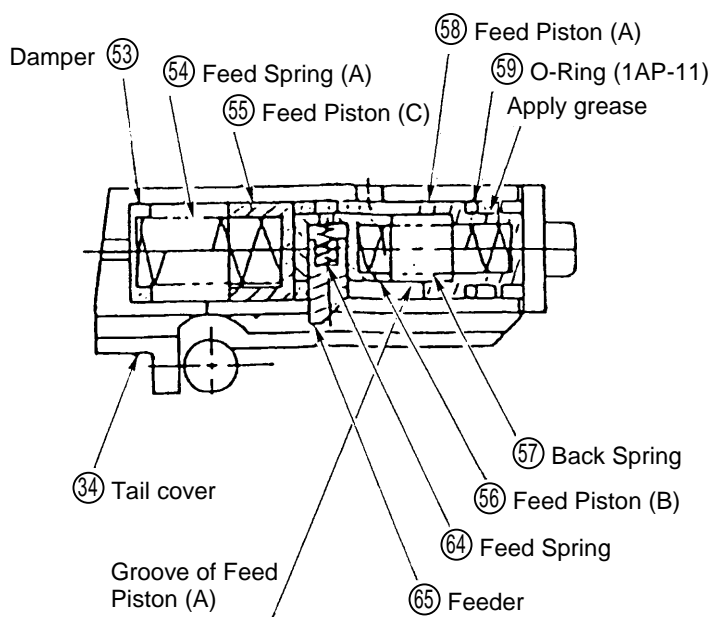

Fig. 22 Assembly Drawing for Feeder Piston and Related Parts (Cross Section)
- As illustrated in Fig. 22, push the O-Ring (1AP-11) (59) of Feed Piston (A) (58) to the left, and apply approximately 0.5 g (.018 oz) of grease into the groove.